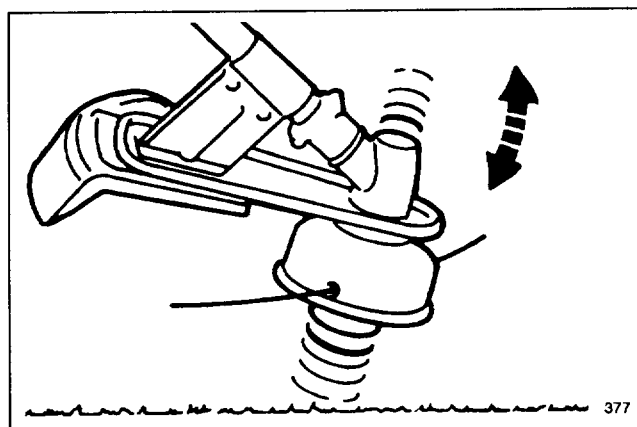

Figure 9
1. To lengthen lines, firmly tap spool on the ground with the engine running at half cutting RPM (Fig. 9). The lines will be fed from the spool and cut off to the proper length by the cutting knife attached to the shield.